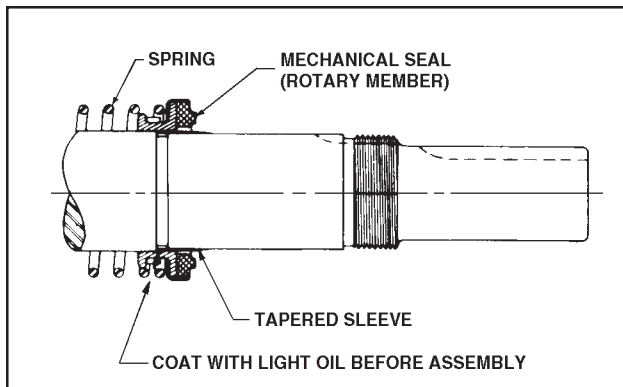

Figure 20
4. Place tapered installation sleeve on shaft. Refer to Figure 20. Sleeve is furnished with GG, AS, AK, and AL replacement mechanical seals. Coat rotor shaft, tapered installation sleeve, and inner diameter of mechanical seal rotary member with a generous amount of refrigeration oil. Petrolatum may be used but grease is not recommended.